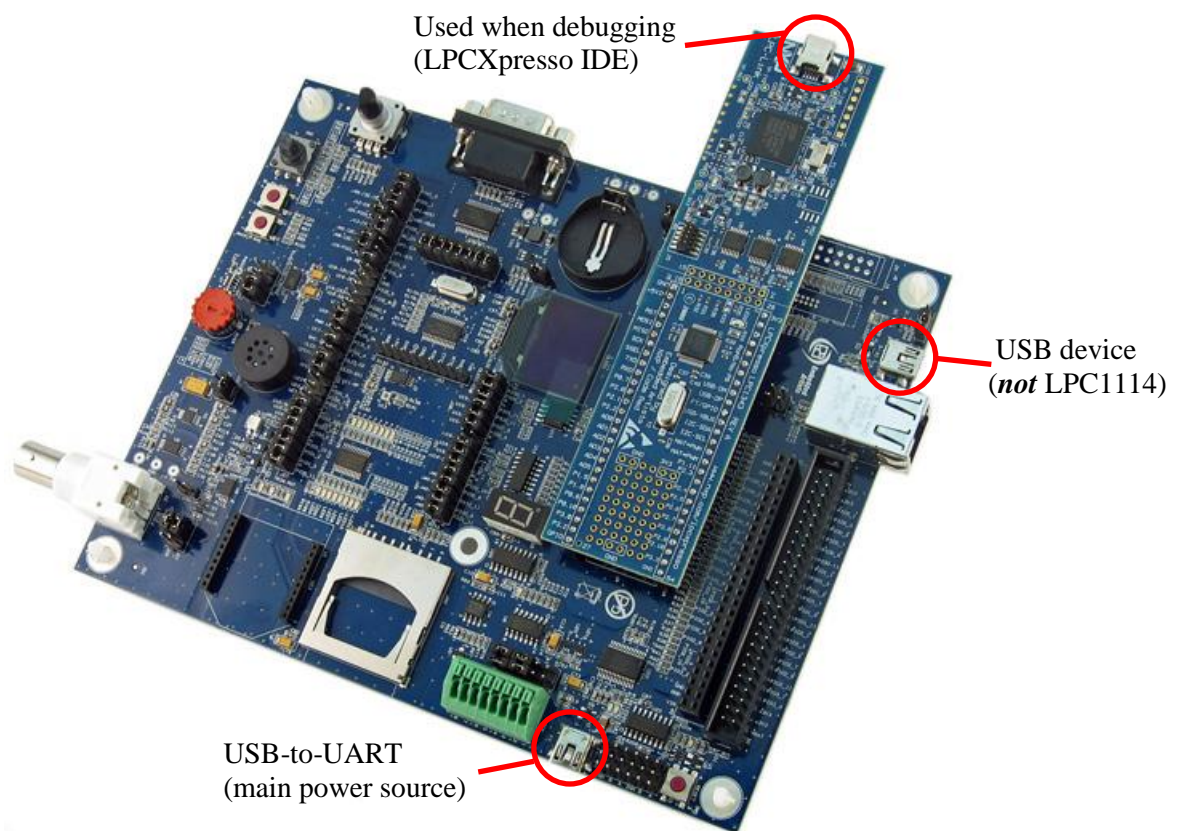

Figure 3 – Base Board with a mounted LPCXpresso LPC1343 board
There are three USB interfaces in total when the *LPCXpresso LPC176x/LPC1343/LPC1114 board* is mounted on the *LPCXpresso Base Board*. Technically any of all three can be used to power the system, but the main power source is however the USB-to-UART bridge. See Figure 3. Section 3.4 describes how to install necessary drivers for the USB-to-UART bridge.
1. Make sure you have connected a USB cable (mini-B to A) between your computer and the LPCXpresso LPC1xxx board, see Figure 3 (USB interface 2).